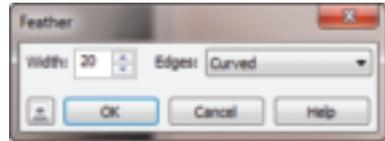

Figure 8
3. Now choose **OBJECT/Feather** and apply a 20-pixel Curved feather (**Figure 8**).